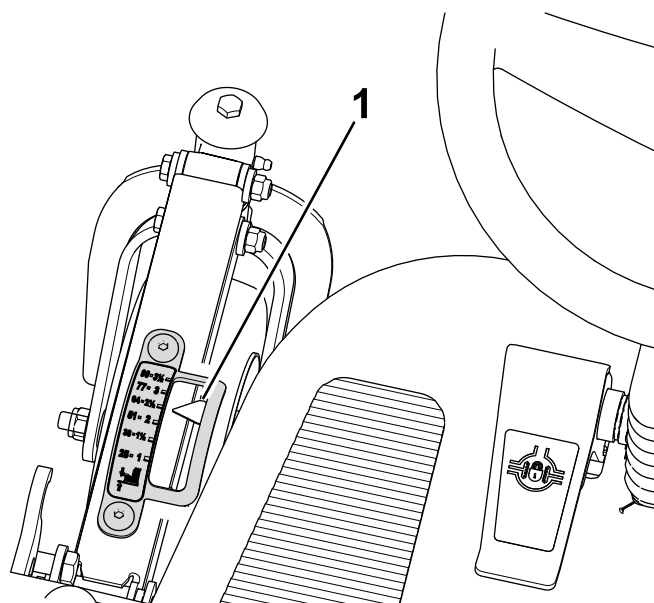

Figure 101
1. Adjust the height of cut to the 64 mm (2-1/2 inch) position (Figure 101).